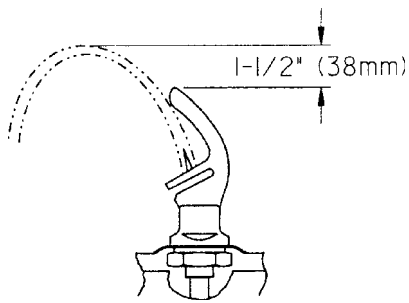
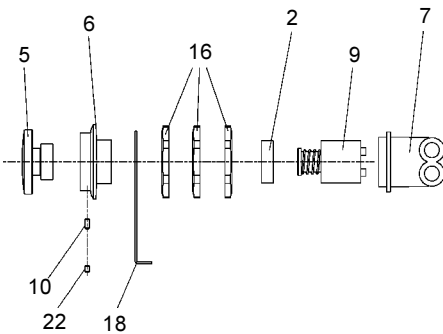
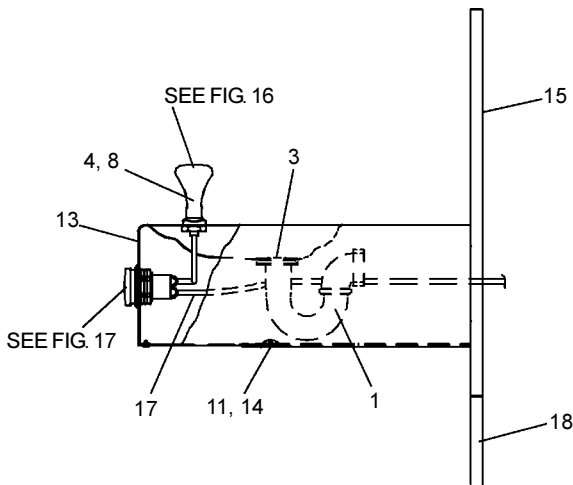

Figure 16 – Stream Height
Figure 17 – Push Button Assembly
Figure 18 – Fountain Assembly - Side View
10. Check stream height from bubbler. Stream height is factory set at 35-40 PSI. If supply pressure varies greatly from this, remove the cover bottom (Item 14 – Figure 18) and adjust the screw on the regulator (Item 9 – Figure 17). Clockwise adjustment will raise stream height and counterclockwise movement will lower stream height. For best adjustment, stream height should be approximately 1-1/2" (38mm) above the bubbler guard. (See Figure 16).
11. Mount lower panel. Loosen the two (2) #10-24 x 5/8" (16mm) screws at frame bottom lip. Slide upper tongue of lower panel under lower edge of already installed upper panel. Tighten previously loosened screws securely.